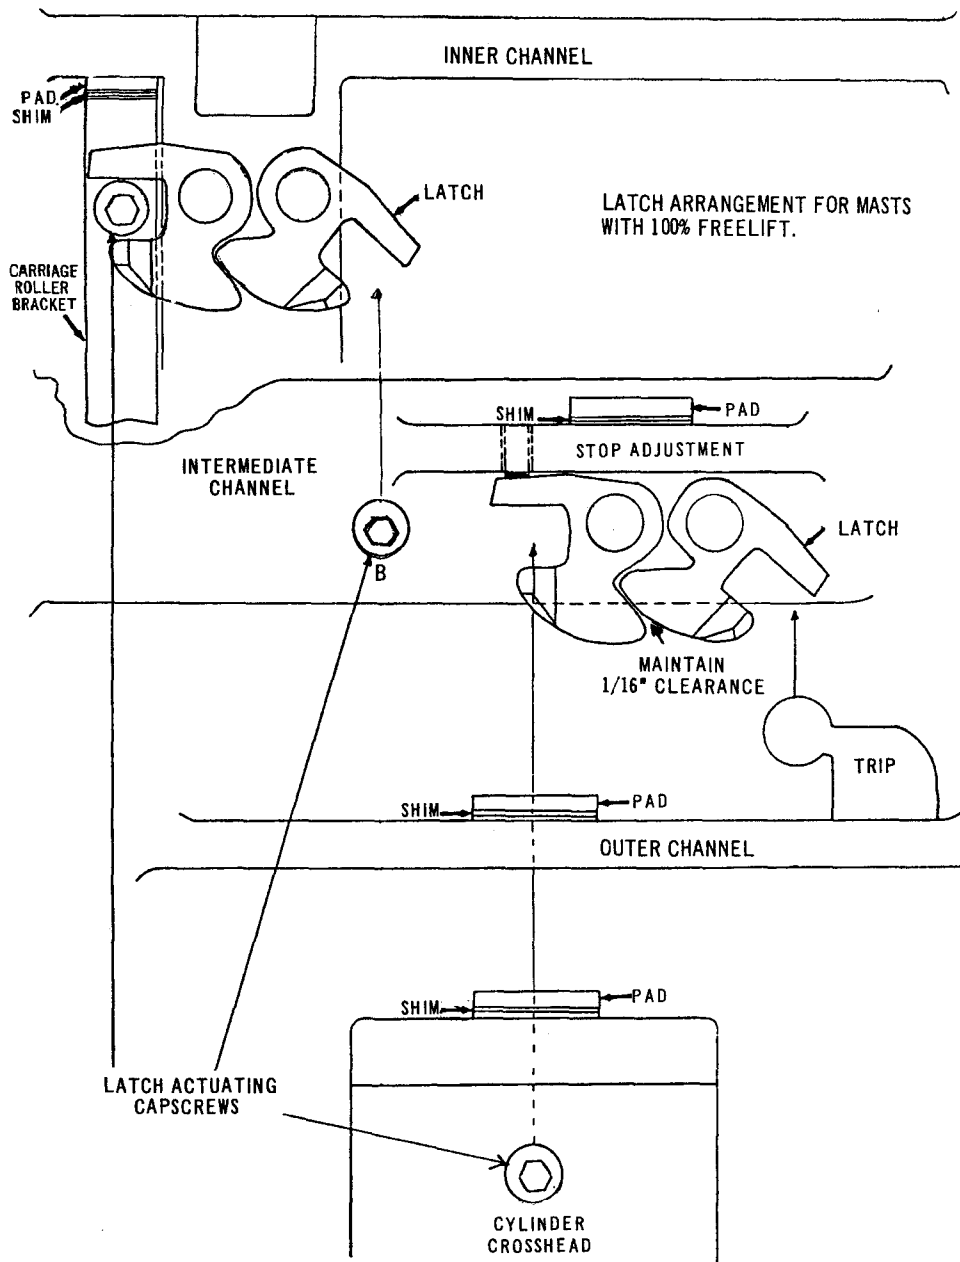

FIG. 8
**NOTE:** Refer to Fig. 8. Latch actuating capscrew will appear at point "B" only.